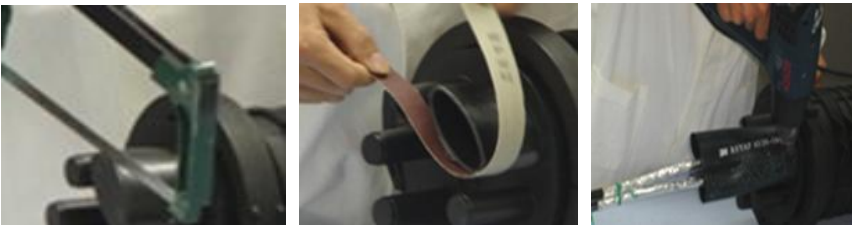
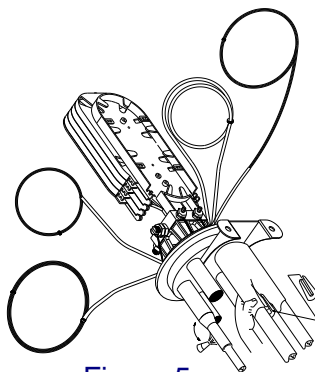

Figure 3
Figure 5
**4.1** Fixed cable and heat shrinkable fixing sleeve according to the picture below. See figure 3, figure5.
See figure 5